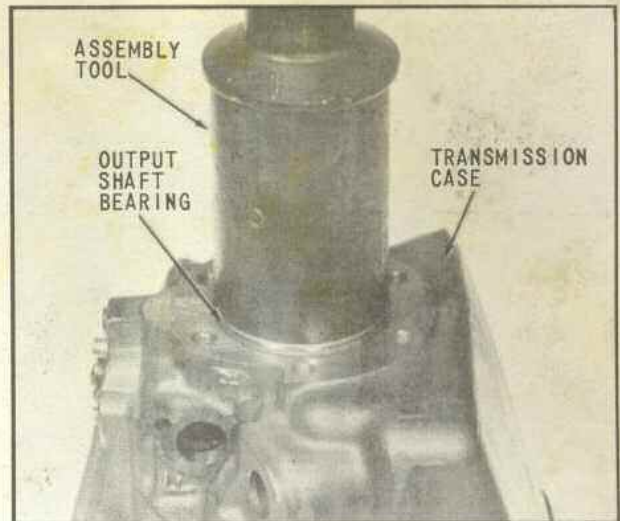

Fig. 29 Rear Bearing Pressed in Place
12. Using an assembly tool designed to press evenly on the bearing outer and inner races, press bearing down until seated against shaft or case shoulder, (Fig. 29).